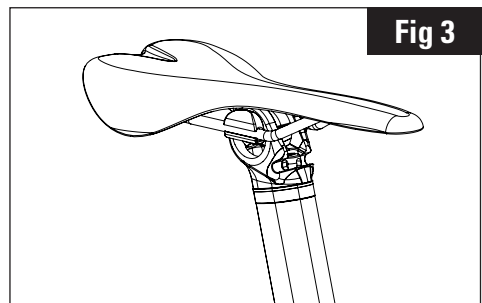

Fig 3
3. Then insert the lower support (10c) under the saddle rails. (Fig.3)